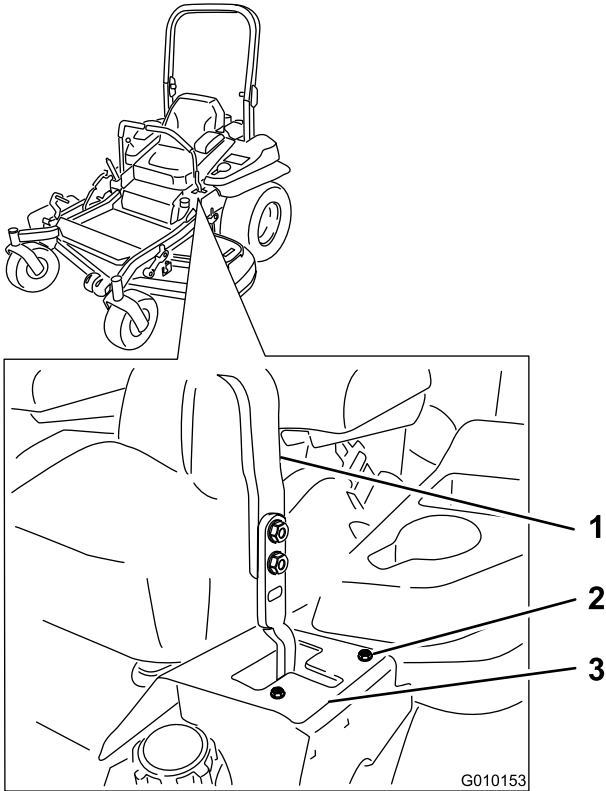

Figure 74
- If it tracks to the right, loosen the bolts and adjust the left stop plate rearward on the left T-slot until the machine tracks straight (Figure 74).
- If it tracks to the left, loosen the bolts and adjust the right stop plate rearward on the right T-slot until the machine tracks straight (Figure 74).
6. Tighten the stop plate (Figure 74).